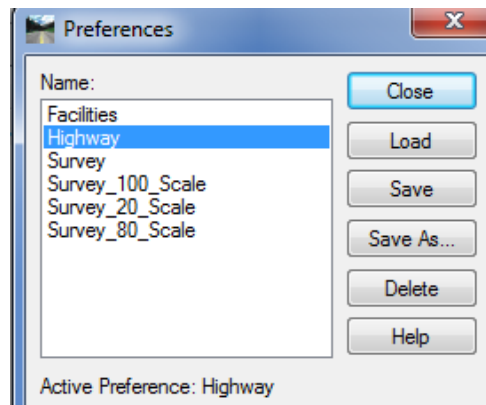

Figure 1-12 InRoads Preferences Dialog Box
- F. In the Preferences box, click on the required discipline name (Highway for this lab). Select **Load** and **Close**. See Figure 1-12